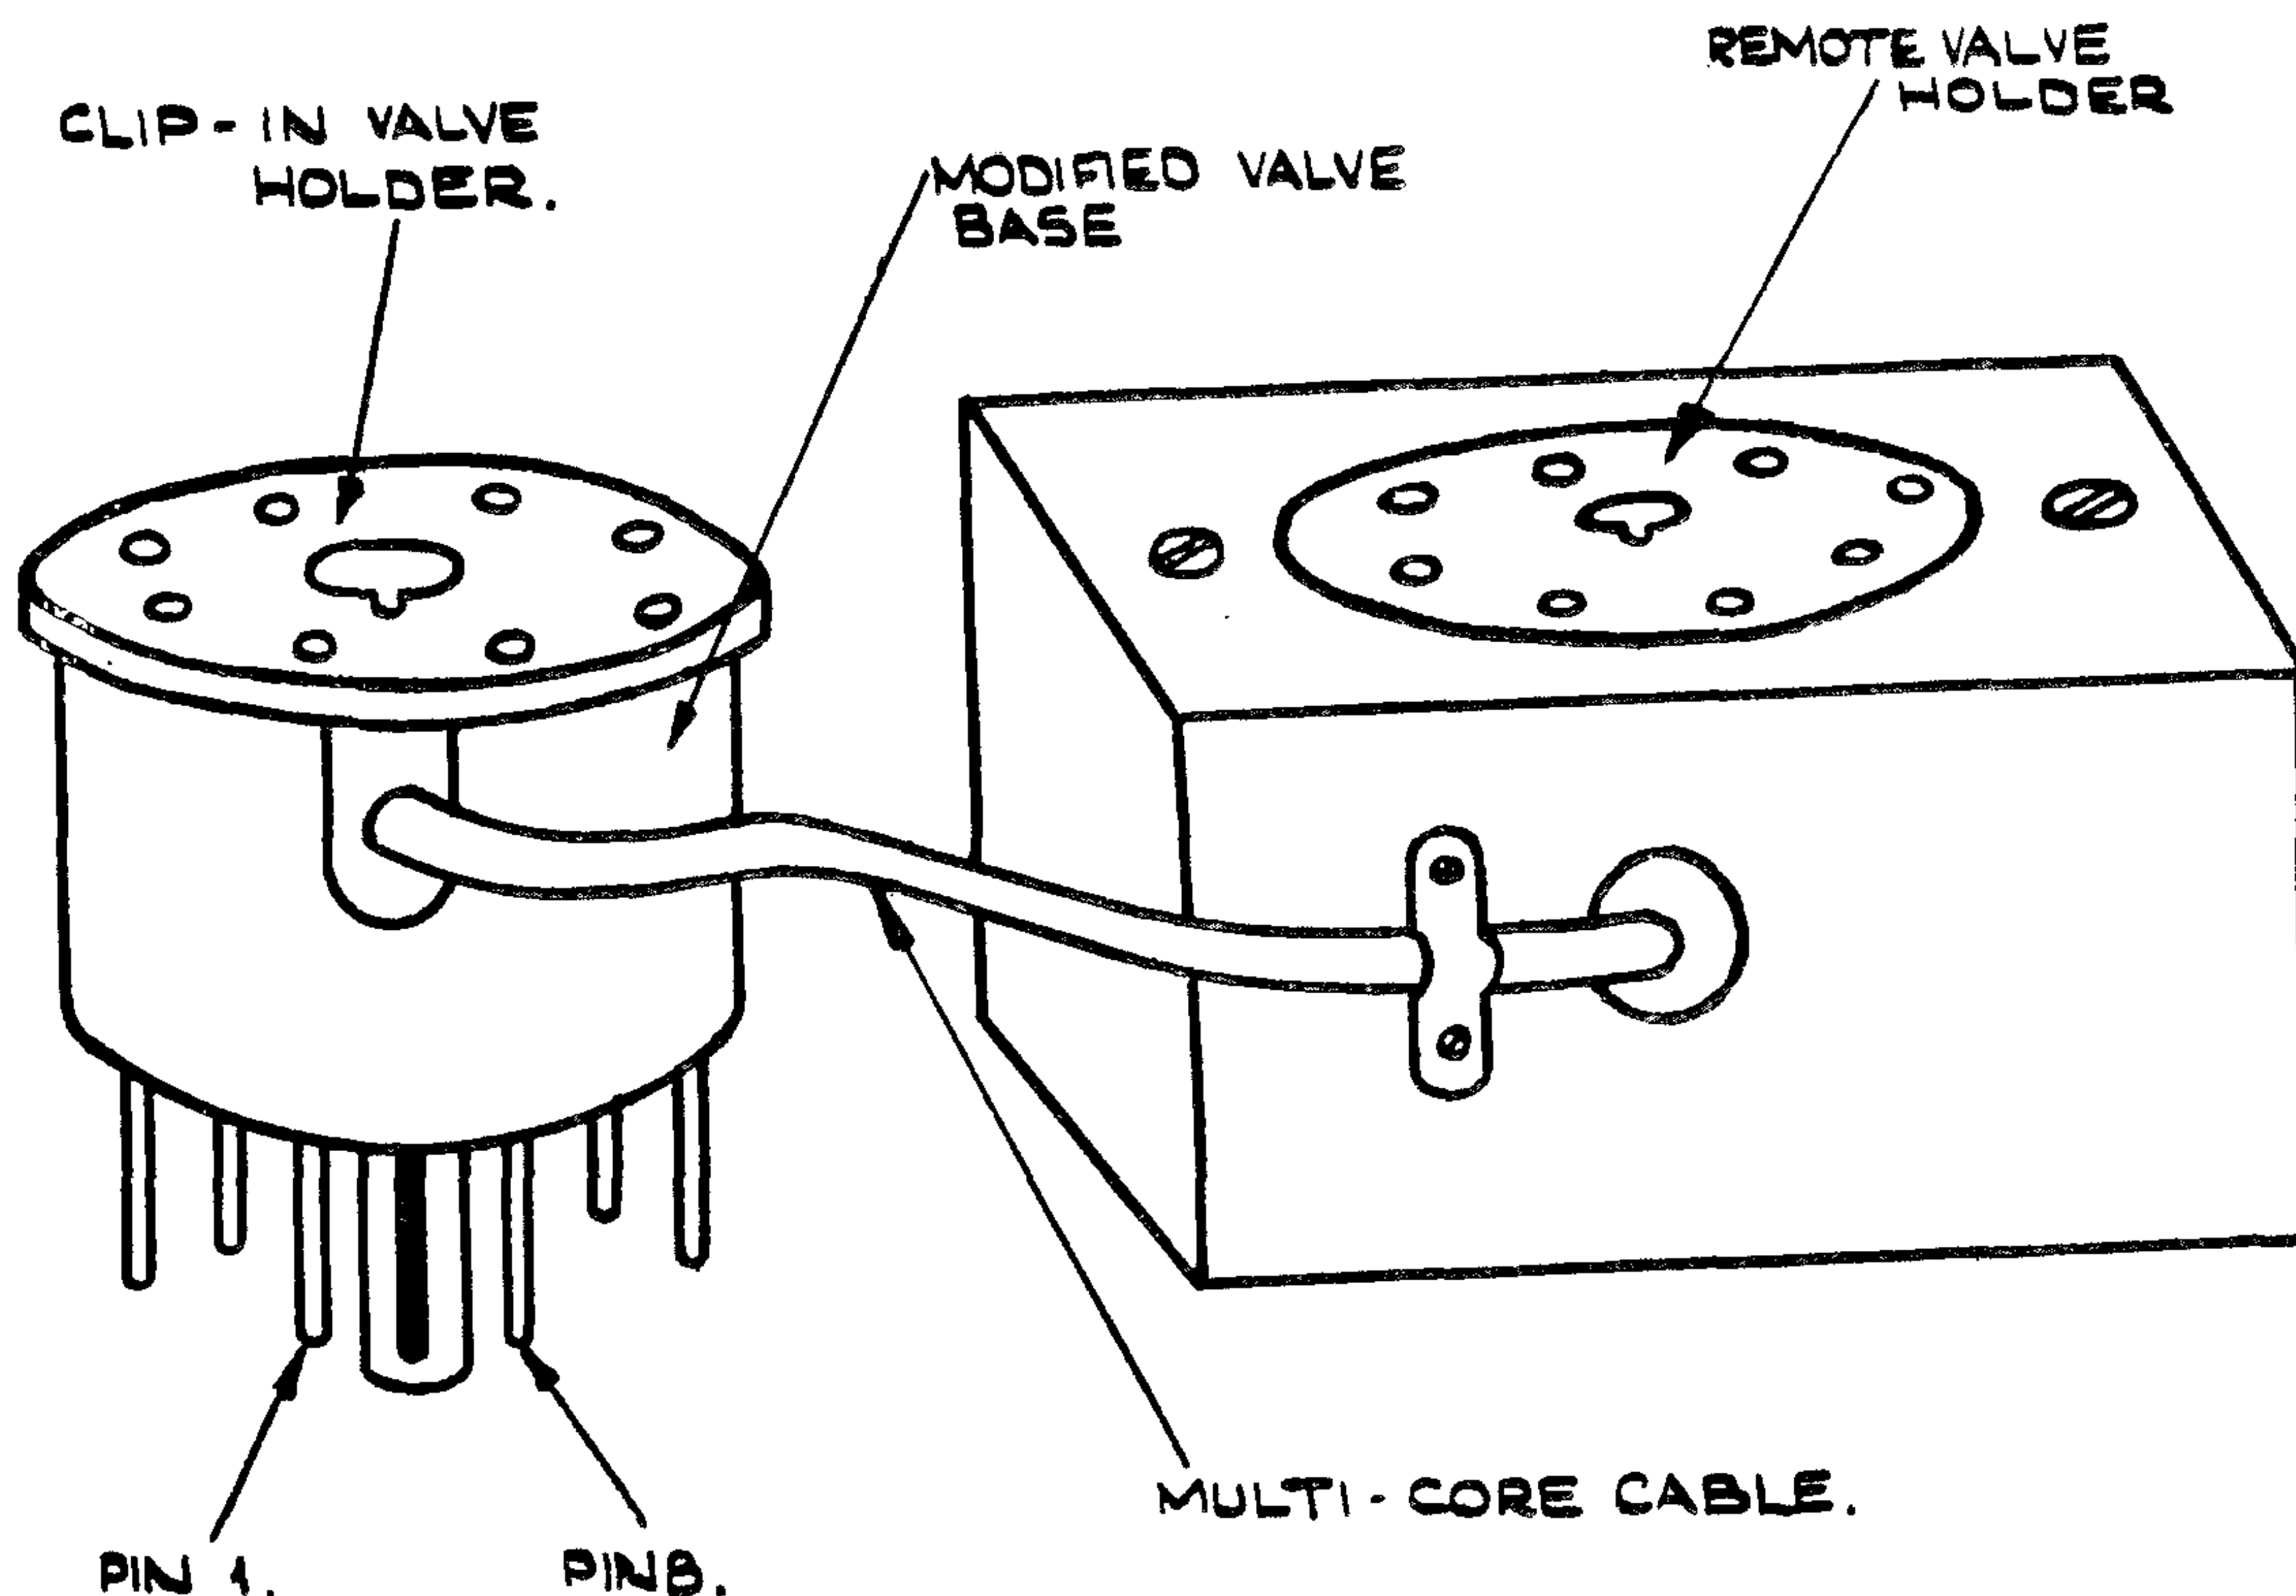

Fig. 1. Complete valve electrode voltage test adaptor
1. The adaptor, shown in complete form on fig. 1 is to be manufactured locally and used when it is necessary to measure valve electrode voltages under working conditions.